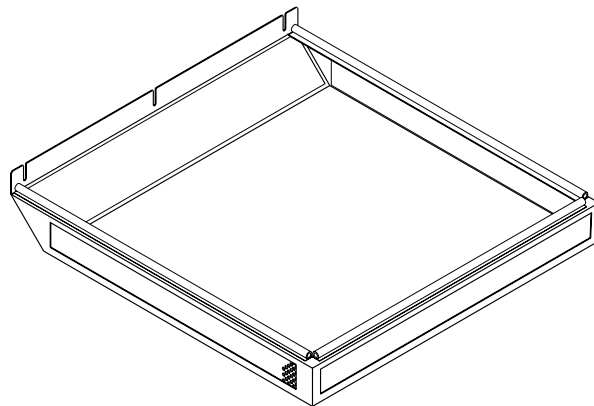

Figure 10-2. 3746-900 Front Ground Plate
Step 9. \_\_\_\_ Install plate PN 58G5335 on the front bottom of the 3746-900 (see Figure 10-2).